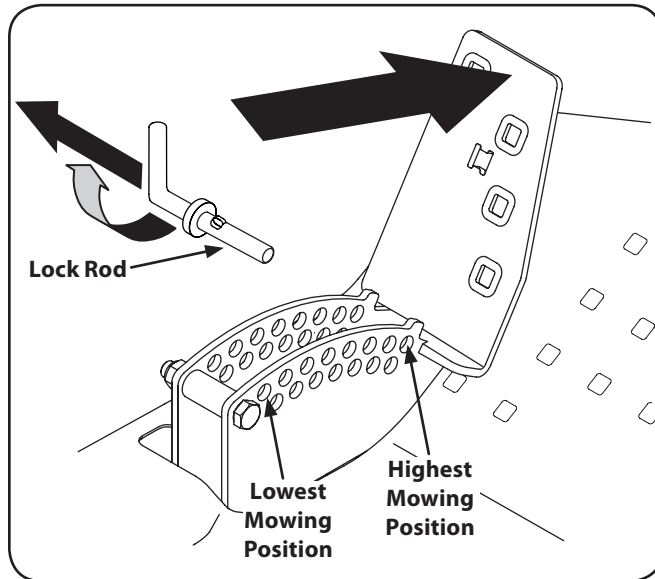

Figure 7-3
2. Place the deck lift pedal in the lowest mowing position and replace the lock pin in front of pedal in the deck height bracket and secure by locking the lock pin. See Fig. 7-3.
1. Place the deck lift pedal in the highest mowing position and secure it by placing the click pin behind the pedal. Refer to Fig. 7-3.